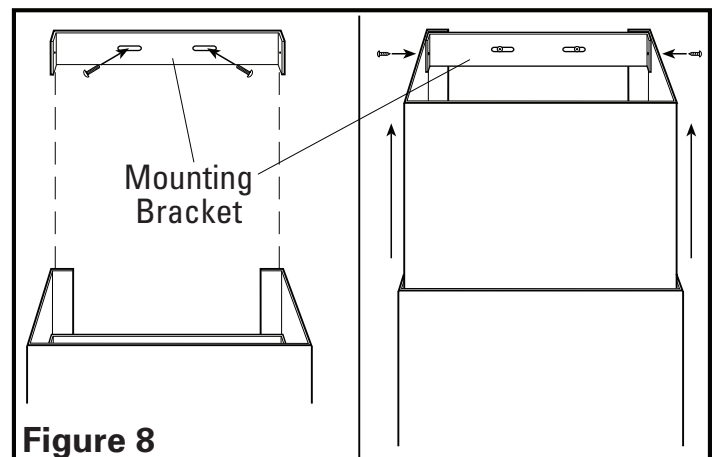

Figure 8
- To install the upper section, mark the location of the included horizontal mounting bracket using the bracket as a template. Make sure the bracket is level and in line with the bottom section. The height will be dependent on your installation requirements. Make sure the slots in the side of the chimney will match the holes in the mounting bracket. If installing onto drywall, drill holes into wall using a 3/16" drill bit. Install wall anchors into the drilled holes (one for each hole). Secure bracket into place with (2) provided #6 x 1" screws. If installing into other material (brick, cement, plaster, etc.) choose an appropriate fastener capable of supporting the weight of the chimney (**Figure 8**).
- Raise top chimney in place over horizontal mounting bracket and secure in place with the two included #6 x 3/8" screws (Figure 8).